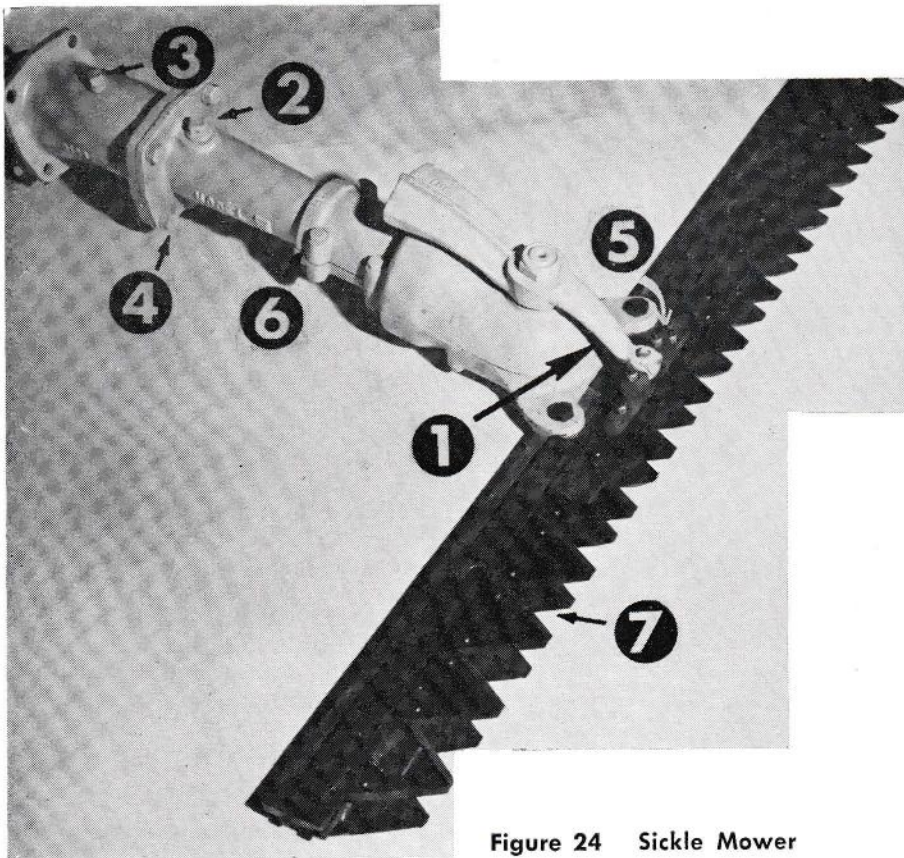

Figure 24 Sickle Mower
Check the Drive Assembly oil level every four hours of operation by removing the Oil Level Plug, 1 in Figure 24. If oil runs out, the oil level is all right; if not, oil must be added.
2 in Figure 24 and pour oil through the Oil Filler Hole until oil begins to run out the Oil Level Hole. Replace both Plugs before mowing.
To lubricate the Universal Joint, remove the Grease Plug, 3 in Figure 24, and fill about half-full with General Purpose Grease.
**SWIVEL ACTION.** To increase swivel action (allowing the Mower to follow the contour of the ground), loosen the bolts, 6 in Figure 24. When these bolts are tightened firmly, the Mower is held in a rigid position. The bolts should be tight enough so the Guide Bar will hold its position until lowered, but loose enough for the Guide Bar to follow the contour of the ground.
**GUARDS.** Always keep the Guards, 7 in Figure 24, in alignment by tapping these with a light hammer until the Knife Sections lie flat on the Shear Plates of the Guards. Keep the Guard Bolts tightened securely.
For best performance, keep the Knife Sections sharp. To remove the Knife for sharpening, remove the Knife Bracket Screws, 5 in Figure 24, and slip the Knife out either side. Grind the Knife Sections along the same bevel as ground originally. When replacing the Knife, make sure the Knife Bracket Screws are tightened firmly.